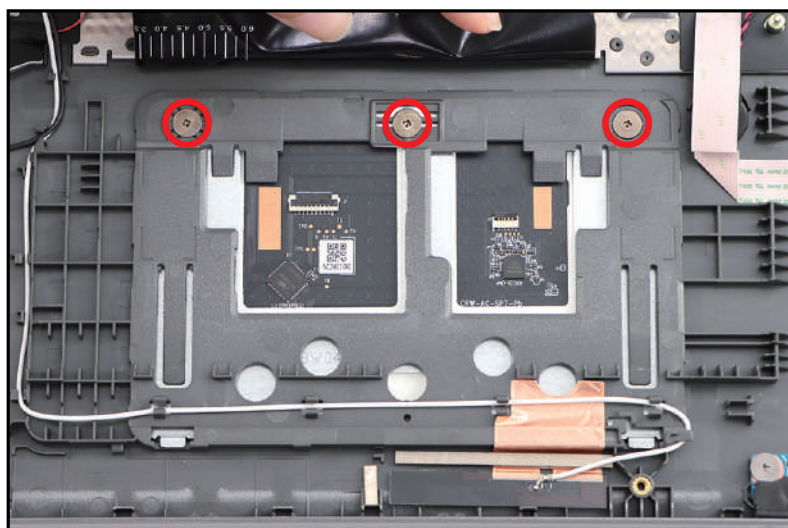

Figure 3-123. Replacing the Touchpad Module
3. Install three (3) screws to secure the touchpad module (Figure 3-123).